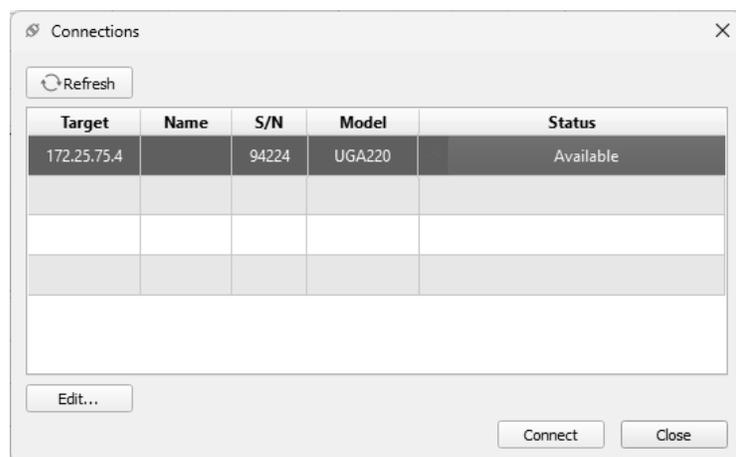

Fig. 2-9. A UGA is found via Ethernet connection.
2. Open the Connections dialog box via menu File > Connect UGA if it is not opened. The Connections dialog box automatically searches for UGA units using the IP address and login credential provided in the section 2.3.3.2.2 (Connection Setup on the Software). Press "Refresh" if the UGA information is not populated. A sample of a found UGA unit is illustrated in Figure 2-9.